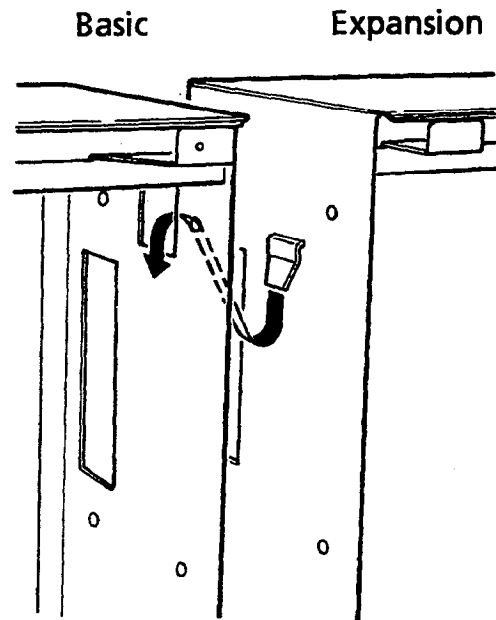

Figure 3-15 - Hooking the Level II Basic and Expansion KSUs Together
3. Lift the Expansion KSU and attach it to the Basic KSU by placing the hook through the slot. Refer to Figure 3-15 - Hooking the Level II Basic and Expansion KSUs Together.